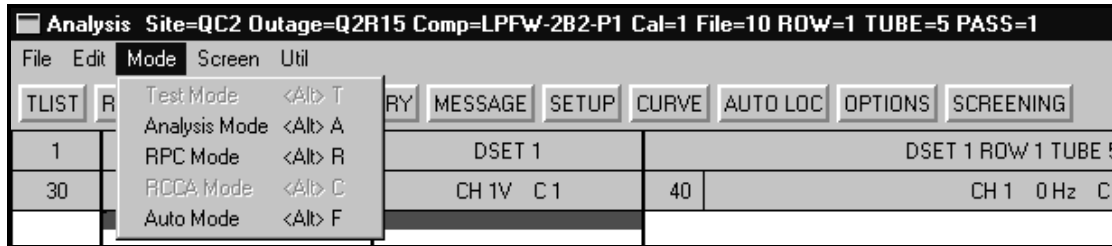

Figure 3-19. Mode Menu
As shown in Figure 3-19, the **Mode** menu contains five choices of operation. They are: **Test Mode**, **Analysis Mode**, **RPC Mode**, **RCCA Mode**, and **Auto Mode**.
To access the different modes of operation, a security key is required for each. The security key(s) connected to the PC will determine which modes are enabled. For example, in Figure 3-19, the Analysis, RPC, and Auto modes are not dimmed. This means that the security key currently in use allows for only these three (3) modes of operation.